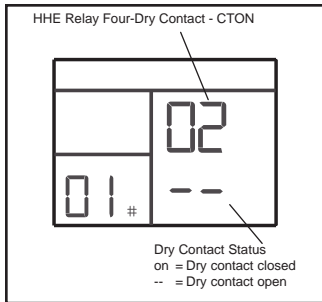

Figure 12. On/Off Status of HHE Relay - CTON
- On/Off status of dry contact two (CTON) (Figure 12)